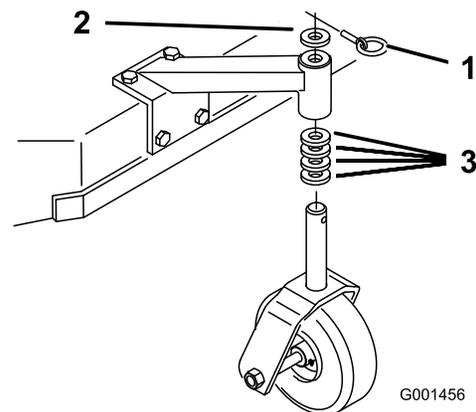

Figure 13
- Using the Height-of-Cut Chart, adjust the caster spacers to match with the axle hole selected (Figure 13).
- Remove the latch pin, slide the caster from the support, and change the spacers (Figure 13).
3. Install the caster in the support and insert the latch pin (Figure 13).